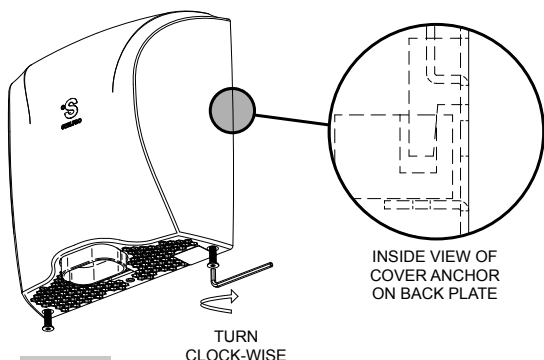

FIG. 6
6. Once the cover is hooked to the anchors of the back plate, secure the cover by SCREWING the tamper-proof screws (clock-wise). (FIG. 6)
2. Remove cover by executing steps from Fig. 6 and 5 in reverse, from previous page.
2. Remove cover by executing steps from Fig. 6 and 5 in reverse of the “Wall installation in 6 steps” section.
- Remove the two screws and serrated bracket that hold the motor. (FIG.6)